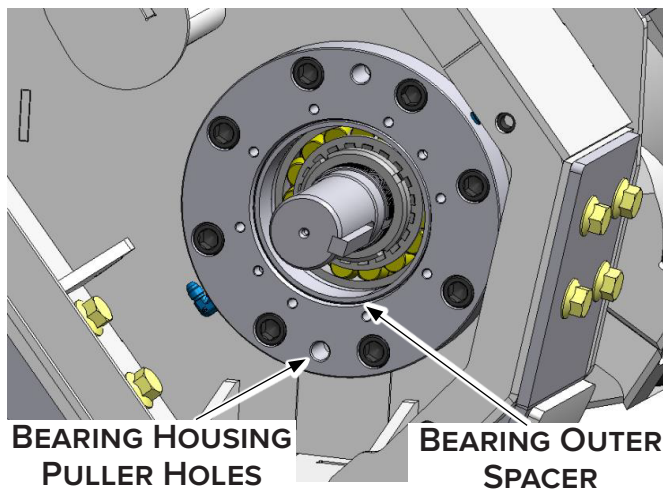

Figure 21
13. Apply lubricating oil on the threads of two (2) of the M16 bearing housing screws and use in the puller holes to separate the bearing housing away from the side wall along with the bearing and both inner and outer spacers inside the housing. See Figure 21.